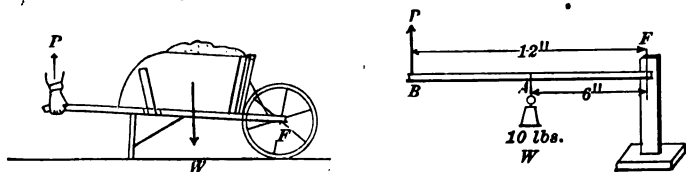

FIG. 10. — One-arm levers.
**19. One-arm lever.** When the fulcrum is located at one end of the lever, as in figure 10, the same principle is involved. There are two tendencies which must balance, the tendency of the weight to tip the lever down and the tendency of the pull applied to the lever to lift it up. The weight multiplied by the perpendicular distance from the fulcrum to its line of action measures its turning effect about the fulcrum; that is, its tendency to tip the lever down. This must be balanced by an equal turning effect in the opposite direction, namely, the upward pull multiplied by its distance from the fulcrum.
Suppose we fasten a stick (Fig. 10) by a screw ( $F$ ) to an upright support, so that the stick is free to turn, and hang a weight ( $W$ ), say 10
6. The handles of a wheelbarrow (Fig. 10) are 4 feet 6 inches from the axle, and the load of 200 pounds can be considered as 18 inches from the axle. How much effort must be exerted to raise the handles?